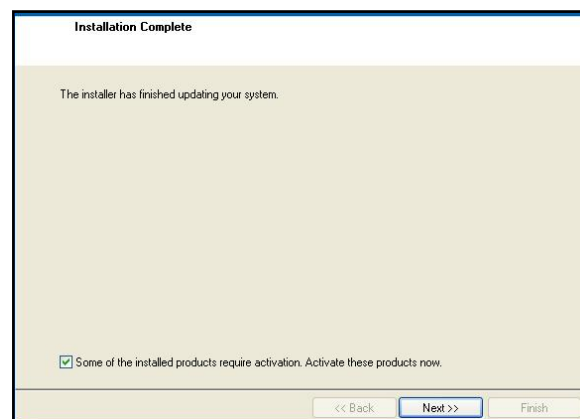

Figure 7. ScanFlex™ installation complete screen.
5. Once installation is completed, click on *NEXT* in the “installation complete” screen (Fig. 7).